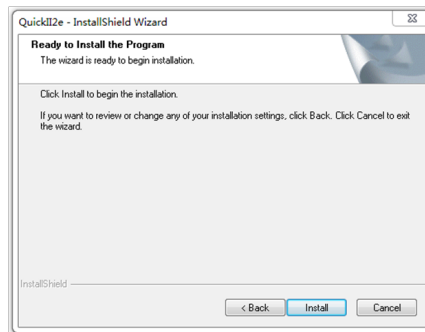

Fig 1.5
- Click “next”, enter the next step in fig. 1.5
4. Enter the next frame of “ Ready to install the program”, as shown in Fig1.5